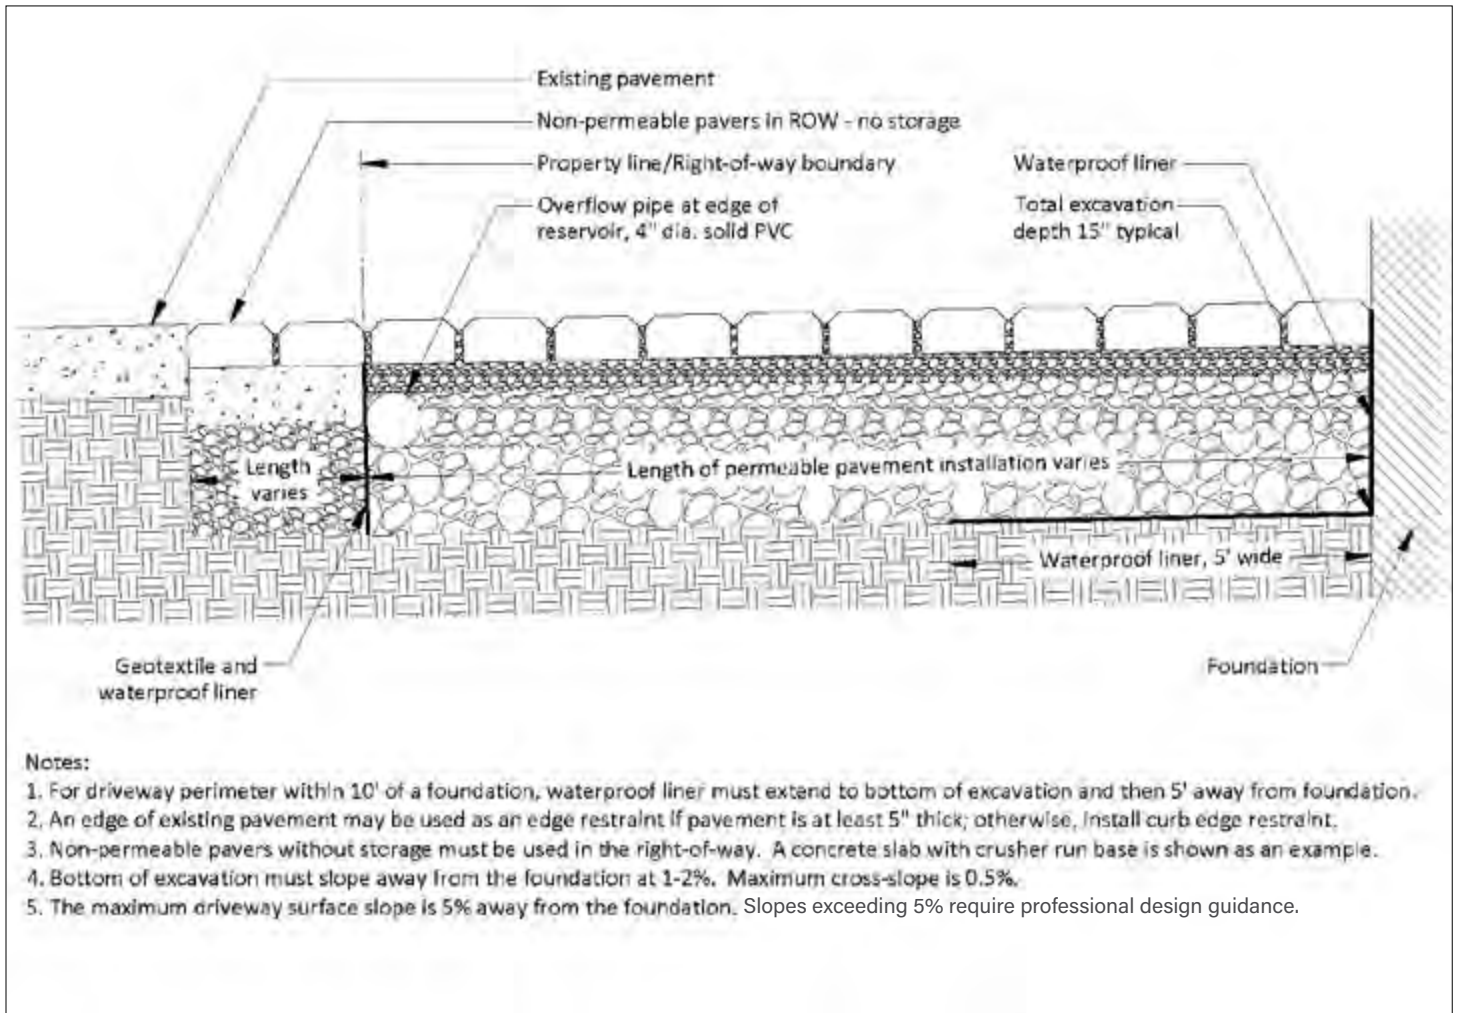

Figure 3. Profile view along driveway centerline
- **Surface overflow** – If a piped overflow design is not feasible, the stone layers below the driveway may completely fill with water during heavy rain. Excess flow will run off the driveway surface, much like a conventional driveway. The stored water will draw down over time, and will also collect at the downslope end of the driveway. To reduce the potential for rutting at the downslope end, a waterproof liner and an additional layer of #2 stone must be installed in this portion of the reservoir (Figure 3; construction step 6).
- f) For designs with surface overflow, excavate an additional six-inch depth at the downslope end of the reservoir (Step 6; Figure 3).
- d) For designs with surface overflow, install a waterproof liner at the downslope end of the stone reservoir (Figure 3). Install geotextile as described above prior to installing the liner. The liner should extend vertically from the top of the pavers to the bottom of the excavation. Extend the liner horizontally one foot toward the house, following the bottom of the excavation and covering the entire excavated width.
- a) Driveways receiving surface overflow require an additional six-inch layer of #2 stone below the reservoir. This area of additional #2 stone is three feet long, must span the full excavated width, and is located at the downslope end of the reservoir (Figure 3). The extra layer of stone provides additional stability when the soil is saturated.
- b) Prior to installing the reservoir stone (Step 6), place and compact the six-inch layer of #2 stone in the area described in Step 5a and shown in Figure 3.